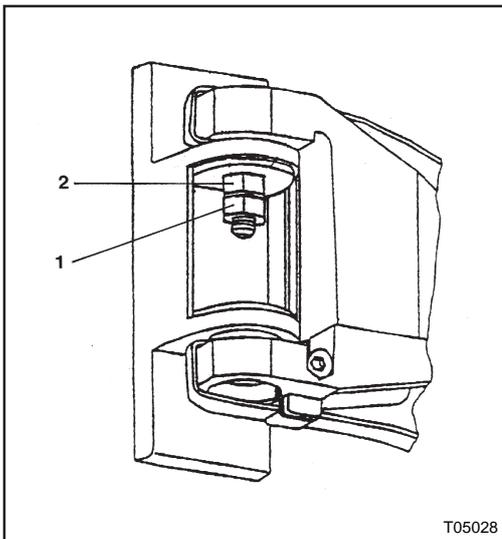
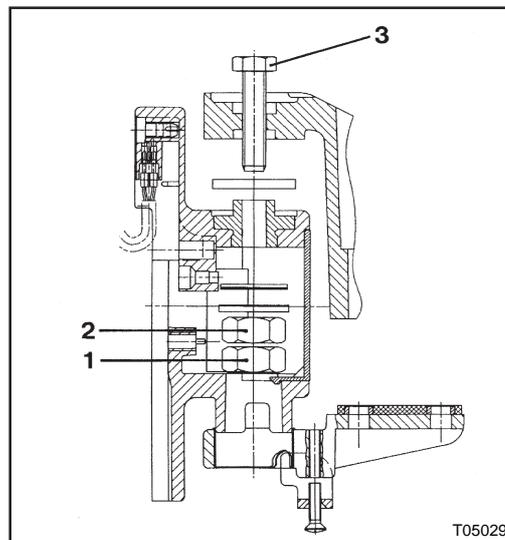

Figure 3: Support arm with jam nut (1) and retaining nut (2)
Figure 4: Support arm pivot bolt (3) and nuts (1, 2)
2. Loosen jam nut (1, Figure 3) and retaining nut (2, Figure 3) of support arm pivot bolt (3, Figure 4).
4. Tighten pivot bolt retaining nut (2, Figure 3) to 37 ft.lbf.
5. Prevent retaining nut (2, Figure 3) from turning with a slim box wrench and tighten jam nut (1, Figure 3) to 41 ft.lbf.